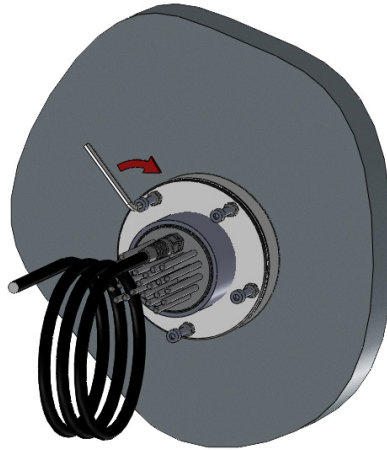

Fig.6.7
3. Thread the washer and locking ring onto the stem of the light body. The stainless steel compression washer does not need to be flat to the hull. An undulating surface can be taken up with the washer. The locking ring should also not sit flat against the washer. Depending on the angle of the hull inside the boat the locking bolts will be able to take up an uneven surface. DO NOT over-tighten locking bolts, you will fracture the light body and this will not be covered under warranty. (See Fig.6.7).